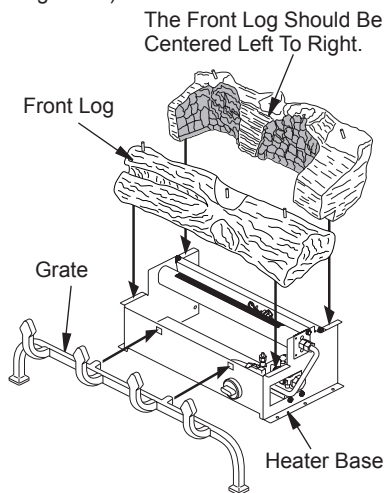

Figure 18 - Installing Grate and Logs
1. Place grate into square holes on heater base as shown in Figure 18.
2. Place front log on burner so that it sits between grate fingers and burner (see Figure 18).
- Place rear log on heater base behind the metal burner. The bottom of the rear log has recess areas on the left and right side for the base to set into. Pull the rear log forward until it touches the front log (see Figure 18, page 15).